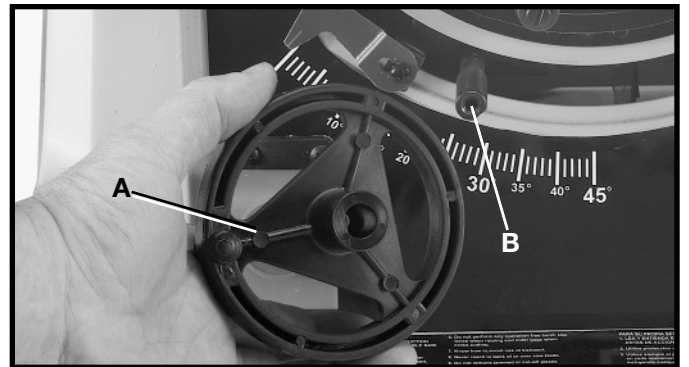
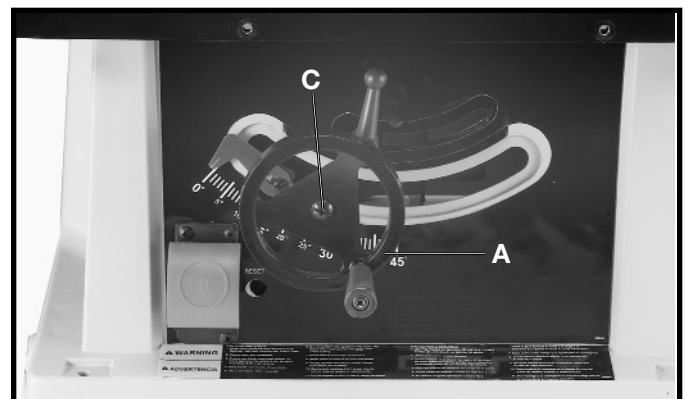

Fig. 7
Fig. 8
3. Assemble handwheel (A) Fig. 7, to shaft (B) making sure the flat on inside of handwheel lines up with flat on shaft.
4. Fasten handwheel (A) Fig. 8, to shaft (B) Fig. 7, using a M6x1x12mm flat head screw (C) Fig. 8.